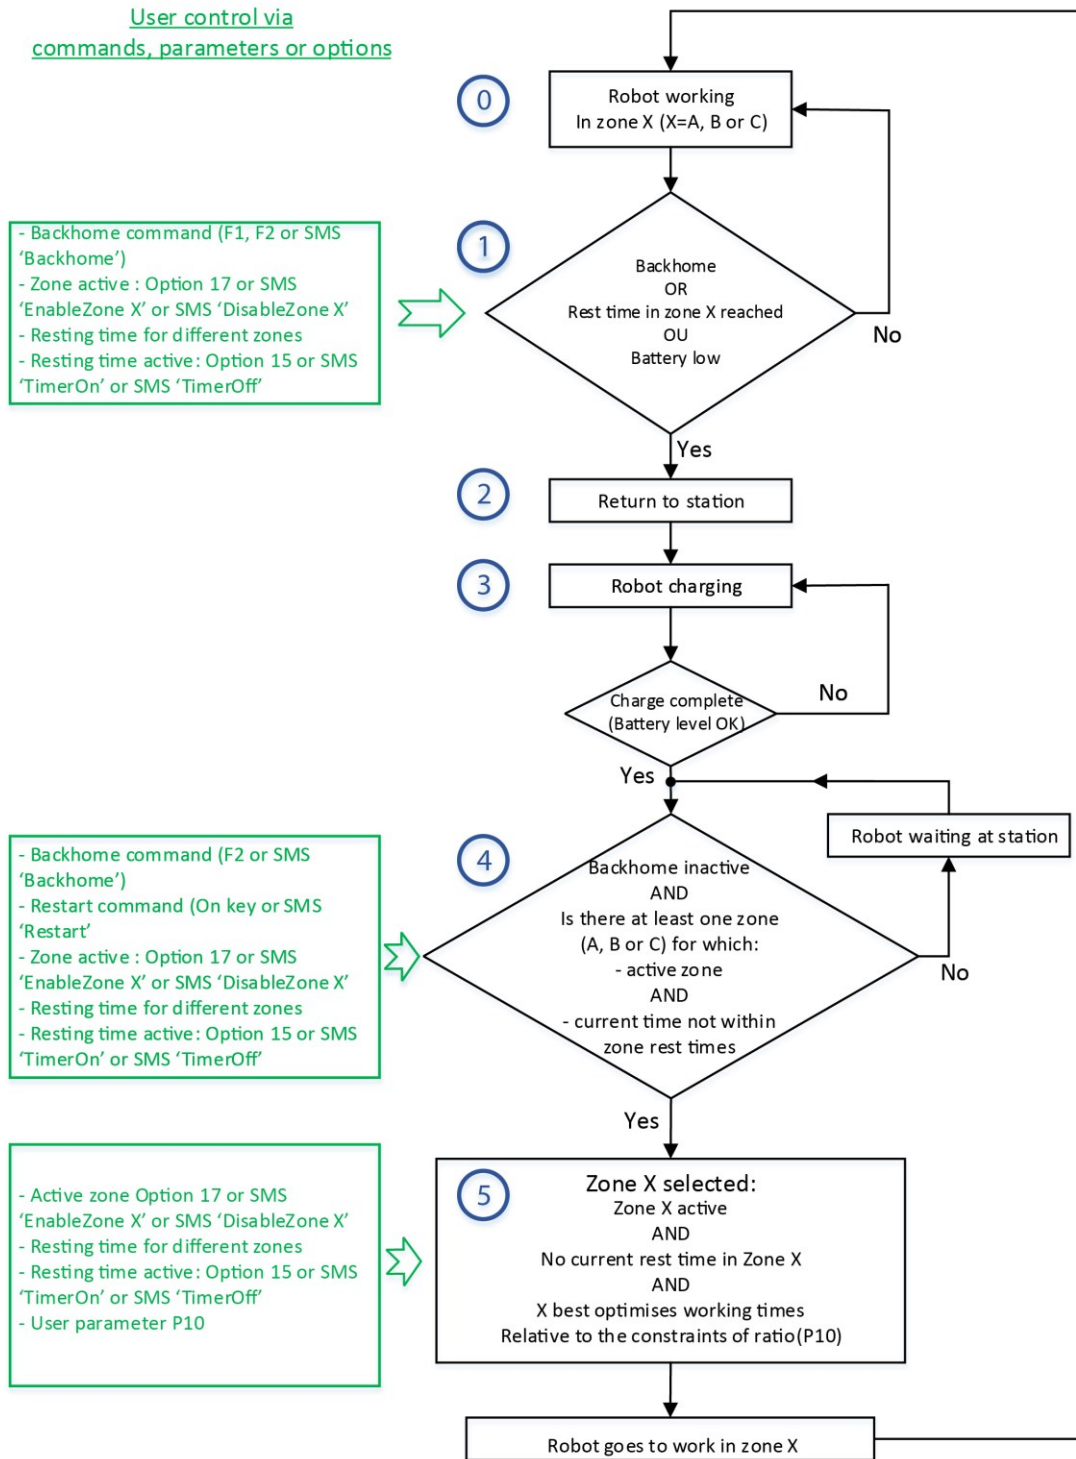

Figure 1: Robot operating algorithm in Multizone mode
The Figure 1 illustrates the global algorithm for choosing the zone and the way in which the user can influence the algorithm by means of commands, parameters and options which can be given to/programmed on the robot.
In automatic mode (normal operating mode), the robot chooses a work zone for each cycle, i.e. each time it leaves the station to go and work (steps 4 and 5 of the Figure 1). During a cutting cycle (steps 0, 1, 2 of the Figure 1-), the robot never changes zone but still sometimes passes through the recovery zone included in the selected work zone.
- If the machine is working in a zone and a user disables it, the machine returns directly to the station. This amounts to a return to station. (Step 1 of the Figure 1)
- If the machine is in the station and decides to leave, it will never select a zone which has been disabled by the user (step 5 of the Figure 1).